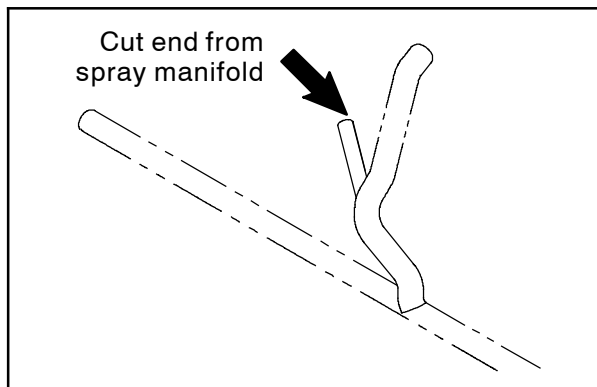

FIG. 19
34. **Machines with cylindrical scrub heads:** Cut the end from the spray manifold. (Fig. 19)